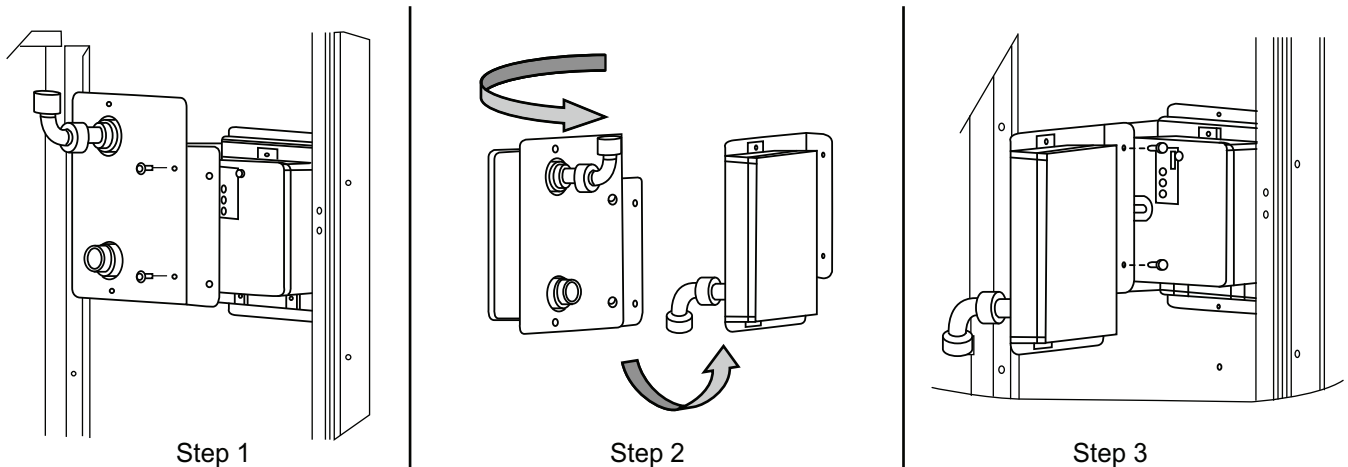

Fig. 42 — Completing Installation of Return-Air Smoke Sensor
1. Unscrew the two screws holding the return air smoke detector assembly. See Fig. 42, Step 1. Save the screws.
2. Turn the assembly 90 degrees and then rotate end to end. Make sure that the elbow fitting is pointing down. See Fig. 42, Step 2.
3. Screw the sensor and detector plate into its operating position using screws from Step 1. See Fig. 42, Step 3.